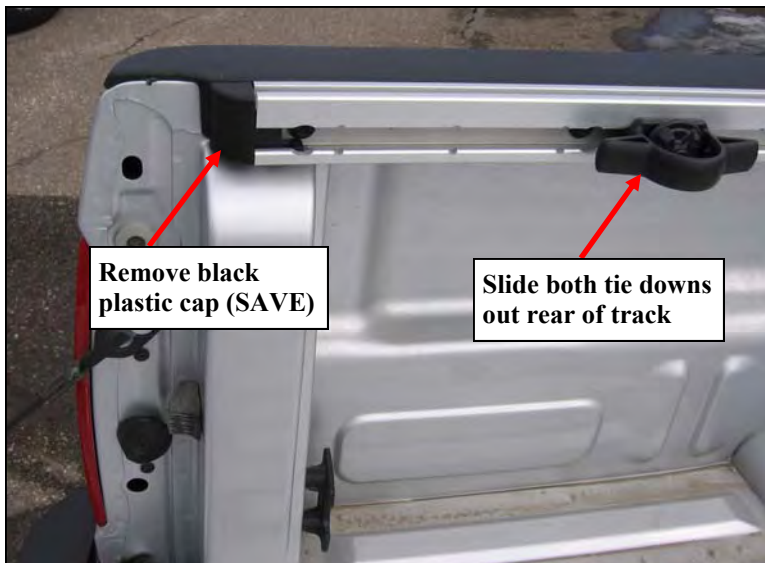

Figure 1—Removal of Rear Plastic Cap and Tie Downs
- Remove and save the black plastic cap at the rear of the Pickup Box Utility Rails on both sides of the truck (See **Figure 1**). Then loosen and slide out the movable truck tie downs on each side of the bed.